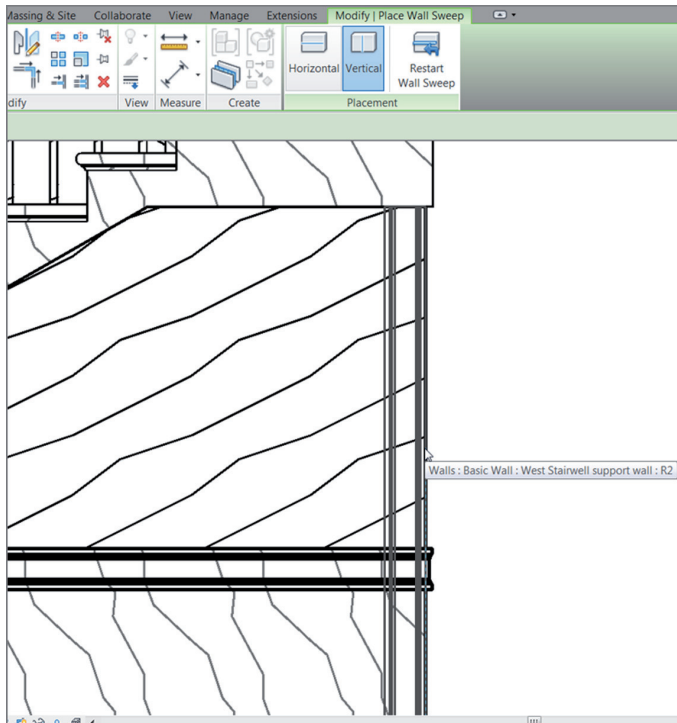

FIGURE BC1.17: Adding the profile to the wall
9. On the Modify | Place Wall Sweep tab, click Vertical on the Placement panel (see Figure BC1.17).